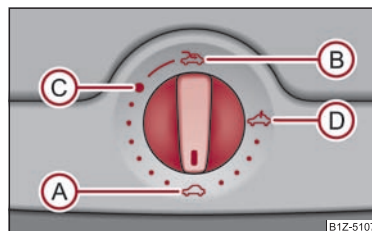

Fig. 35 Detail of the headliner: Control dial for the power sliding/tilting roof
The sliding/tilting roof is operated by means of the control dial ⇒ fig. 35 and only functions when the ignition is switched on. The control dial has several positions.
- Turn the switch to position **C** ⇒ fig. 35.
- Turn the switch to position **A** ⇒ page 46, fig. 35.
The sliding/tilting roof is fitted with a force limiter. If an obstacle (e.g. ice) prevents closing, the sliding/tilting roof stops and opens completely. You can close the sliding/tilting roof completely without force limiter by pressing the switch to the **A** position ⇒ page 46, fig. 35 at the front for as long as it takes for the sliding/tilting roof to close completely ⇒ ⚠.
It is necessary after each emergency operation (using Allen key) to move the sliding/tilting roof into the basic position. Here you have to set the control dial to the switch position **A** ⇒ page 46, fig. 35 and press it forward for about 10 seconds. ■